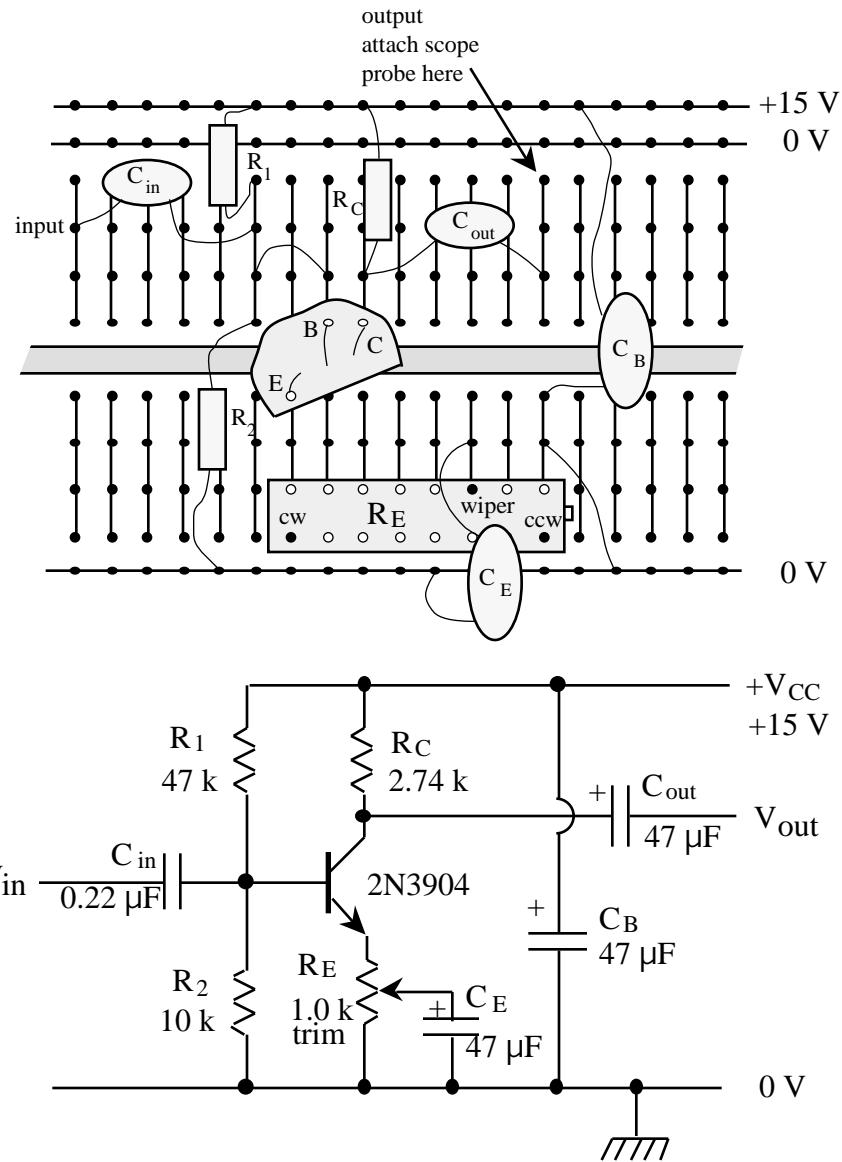

Figure 7.4 Common Emitter Stage Layout and Schematic
1. Calculate the quiescent voltages  $V_B$ ,  $V_E$ , and  $V_C$ , and the currents  $I_E$  and  $I_C$  for the common emitter circuit in Figure 7.4. How much power is dissipated in the transistor itself? Is the power safely below  $P_{max}$ ? (See Appendix for 2N3904 Data Sheet.)
2. Find the ac voltage gain of the circuit in Figure 7.4 for 10 kHz sine waves with the emitter bypass capacitor  $C_E$  removed. Estimate the maximum amplitude of the output before clipping occurs. (The maximum output voltage is limited by the positive supply voltage, and the minimum is determined by the requirement that the collector voltage must be at least a few tenths of a volt above the emitter voltage.)
3. The emitter bypass capacitor can provide an AC ground path for the emitter, increasing the gain of the amplifier at high frequency. Considering the effects of the intrinsic emitter resistance  $r_e$ , what is the maximum possible AC voltage gain of the amplifier in Figure 7.4? Will this gain likely be realized for 10 kHz sine waves? Why or why not?
4. What setting of the emitter trimpot is needed to give the required gain of -25? For the single stage in Figure 7.4, what are the input and output impedances  $r_{in}$  and  $r_{out}$  at 10 kHz
In Figure 7.4 we show the first amplifier stage and a suggested circuit board layout. Your circuit will be easier to understand if you try to keep the physical layout looking like the schematic diagram. Use the wiring color code given in Experiment #4.
The first step is to construct the bias network and check that the correct dc levels (quiescent voltages) are established. Assemble the common emitter stage as shown in Figure 7.4, but without the input and output coupling capacitors or the emitter capacitor (without  $C_{in}$ ,  $C_{out}$ , and  $C_E$ ). The wiper contact on the emitter resistor  $R_E$  should not be connected to anything yet. Measure the resistors before putting them in the circuit, and if they differ from the values used in your calculations, recalculate the quiescent voltages. Before turning on the power, disconnect the power supply from the circuit board for a moment and check that it is set to +15 V. Then turn on the power, and check the dc levels  $V_B$  (at the transistor base),  $V_E$  (at the emitter) and  $V_C$  (at the collector).